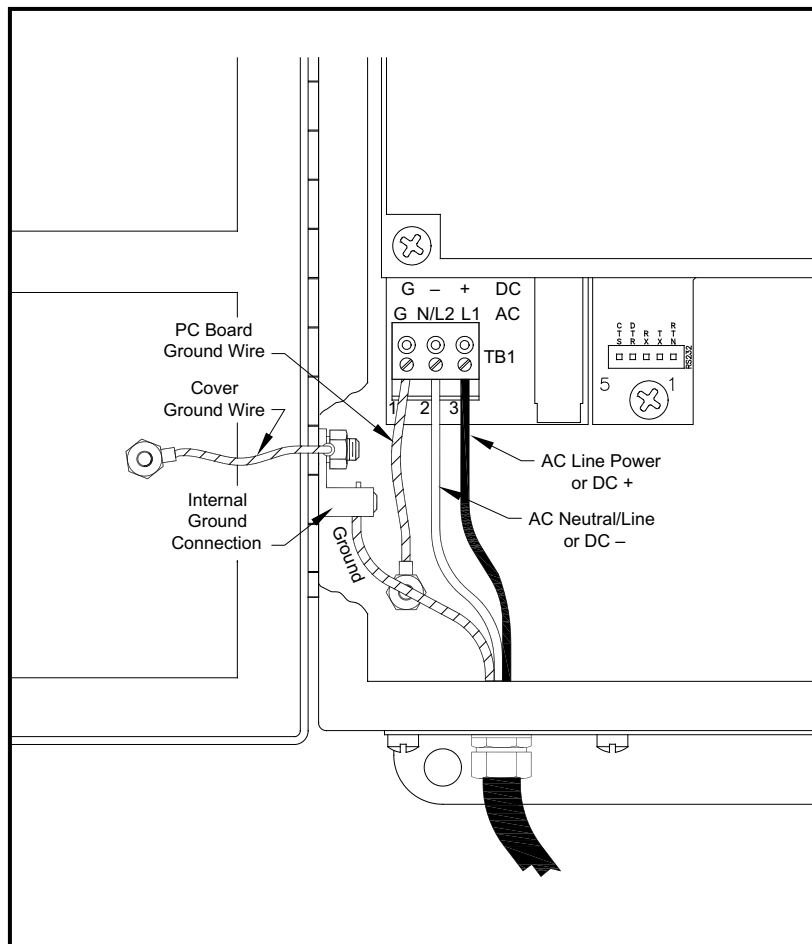

Figure 3: Wiring the Line Power
Refer to Figure 3 on page 7 or Figure 10 on page 18 to locate terminal block **TBI** and connect the line power as follows:
3. Connect the ground lead to the internal ground connection located on the side panel of the enclosure (see Figure 3 below).
4. Connect the neutral or line lead (or the negative – DC power lead) to **TBI-2** and the line power lead (or the positive + DC power lead) to TBI-3 as shown in Figure 3 below.